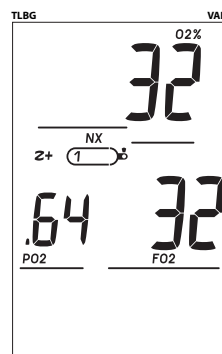

Fig. 55 - NO DECO ALT 3
**NO DECO ALT 3** (only if Nitrox), information includes (Fig. 55):